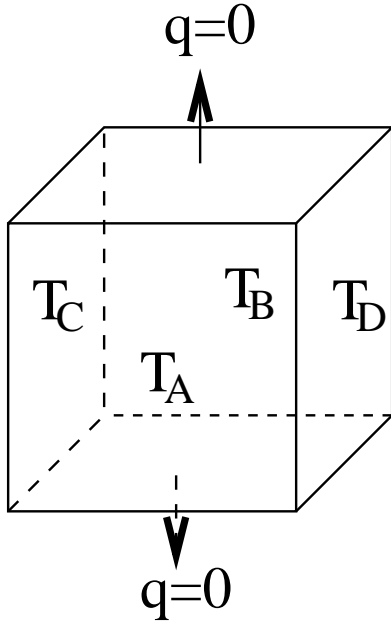

Figure 5: Conduction from a cube.
5. A cubic solid of side  $a$  is initially held at a temperature  $T_0$ . At times  $t \geq 0$ , its lateral faces are held at temperatures  $T_A$ ,  $T_B$ ,  $T_C$  and  $T_D$  as illustrated in figure 5. The top and bottom faces are insulated so that no heat is transferred through them. The cube has heat conductivity  $C$ , density  $\rho$  and thermal conductivity  $K$ .